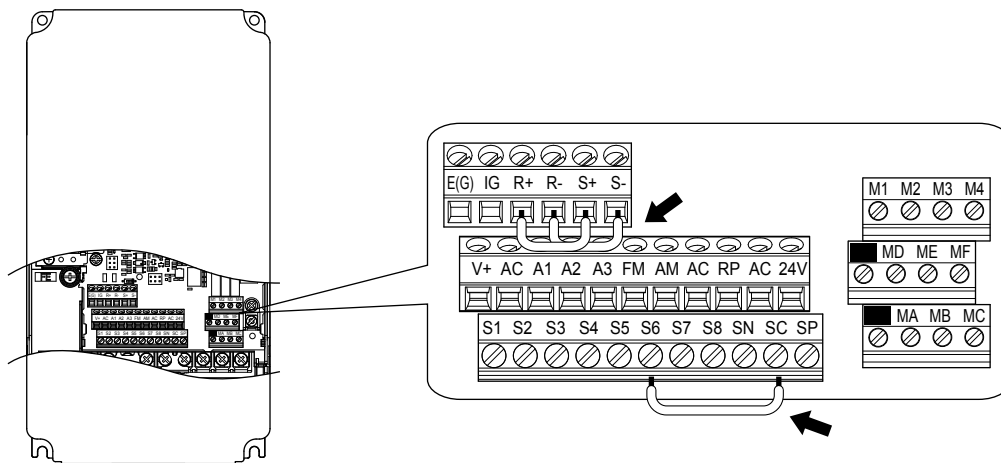

Figure C.8 Terminal Connections for Communication Self-Diagnostics
4. With the power off, wire the drive as shown in Figure C.8, connecting terminals R+ and S+, R- and S-, and S6 and SC.